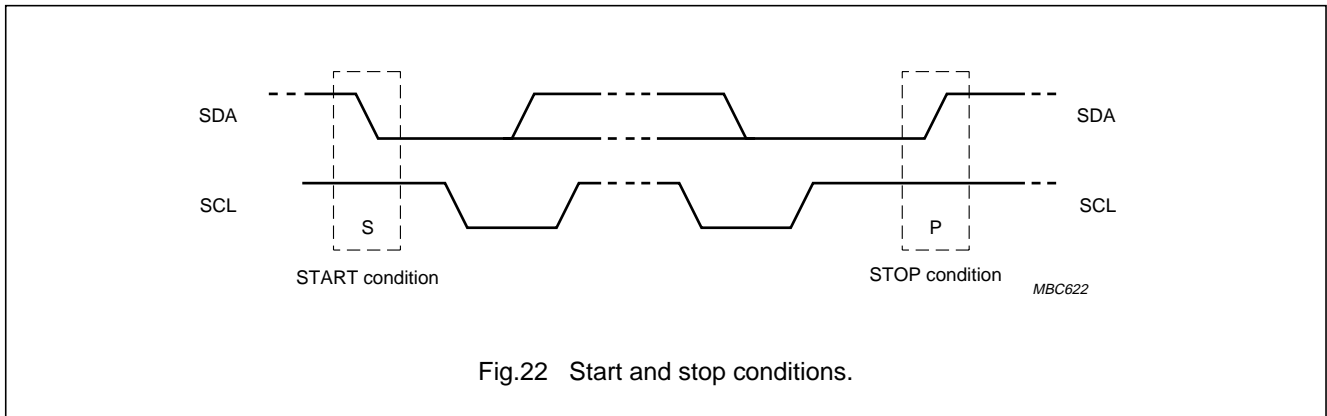

Fig.22 Start and stop conditions.
Figure 22 shows the definition of the start and stop conditions. Both data and clock lines remain HIGH when the bus is not busy. A HIGH-to-LOW transition of the data line, while the clock is HIGH is defined as the start condition (S). A LOW-to-HIGH transition of the data line while the clock is HIGH is defined as the stop condition (P).